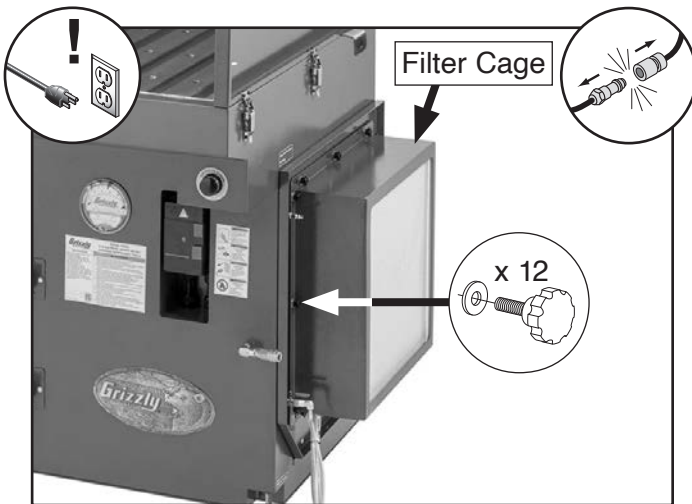

Figure 10. Location of filter cage and fasteners.
2. Remove (12) knob bolts and fender washers shown in **Figure 10** to remove filter cage and gain access to motor.